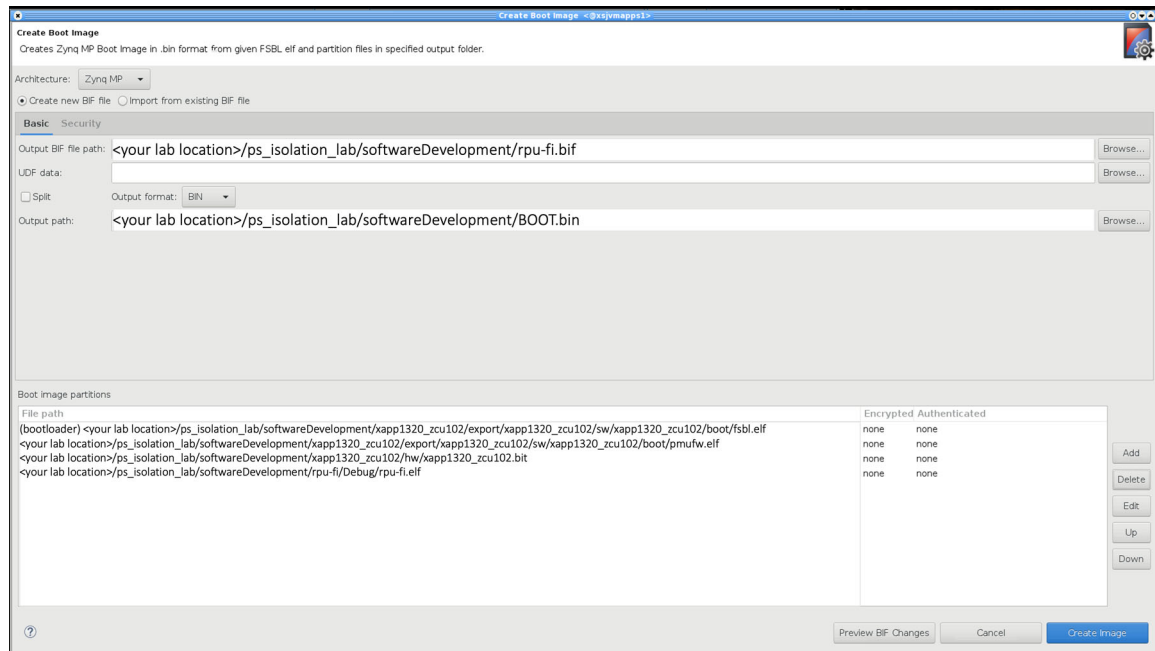

Figure 26: RPU Fault Injection System BIF Setup
10. The Create Boot Image window looks like Figure 26.